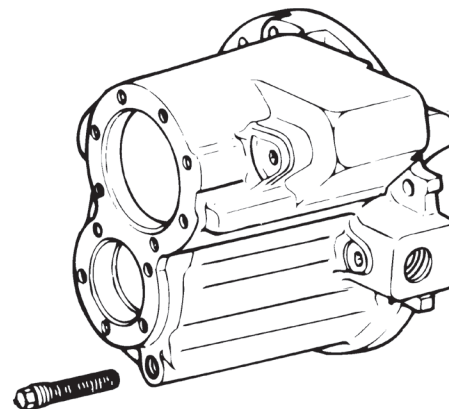

Figure 3.37
11. Remove the oil screen and plug assembly from the suction line at the front of the cage of differential assembly. Figure 3.37.